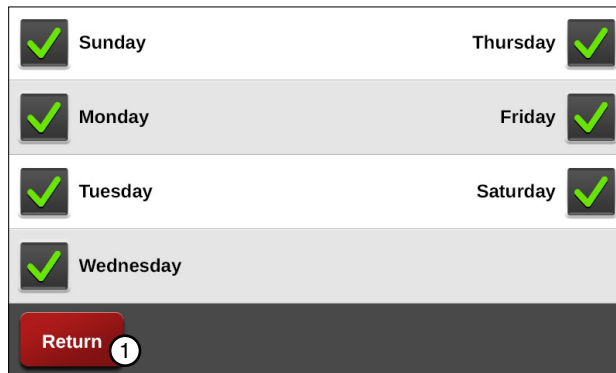

Figure 95-1 Configure Days Screen
2. Push the **Configure Days** button. To display the Configure Days screen. Refer to Figure 95-1.